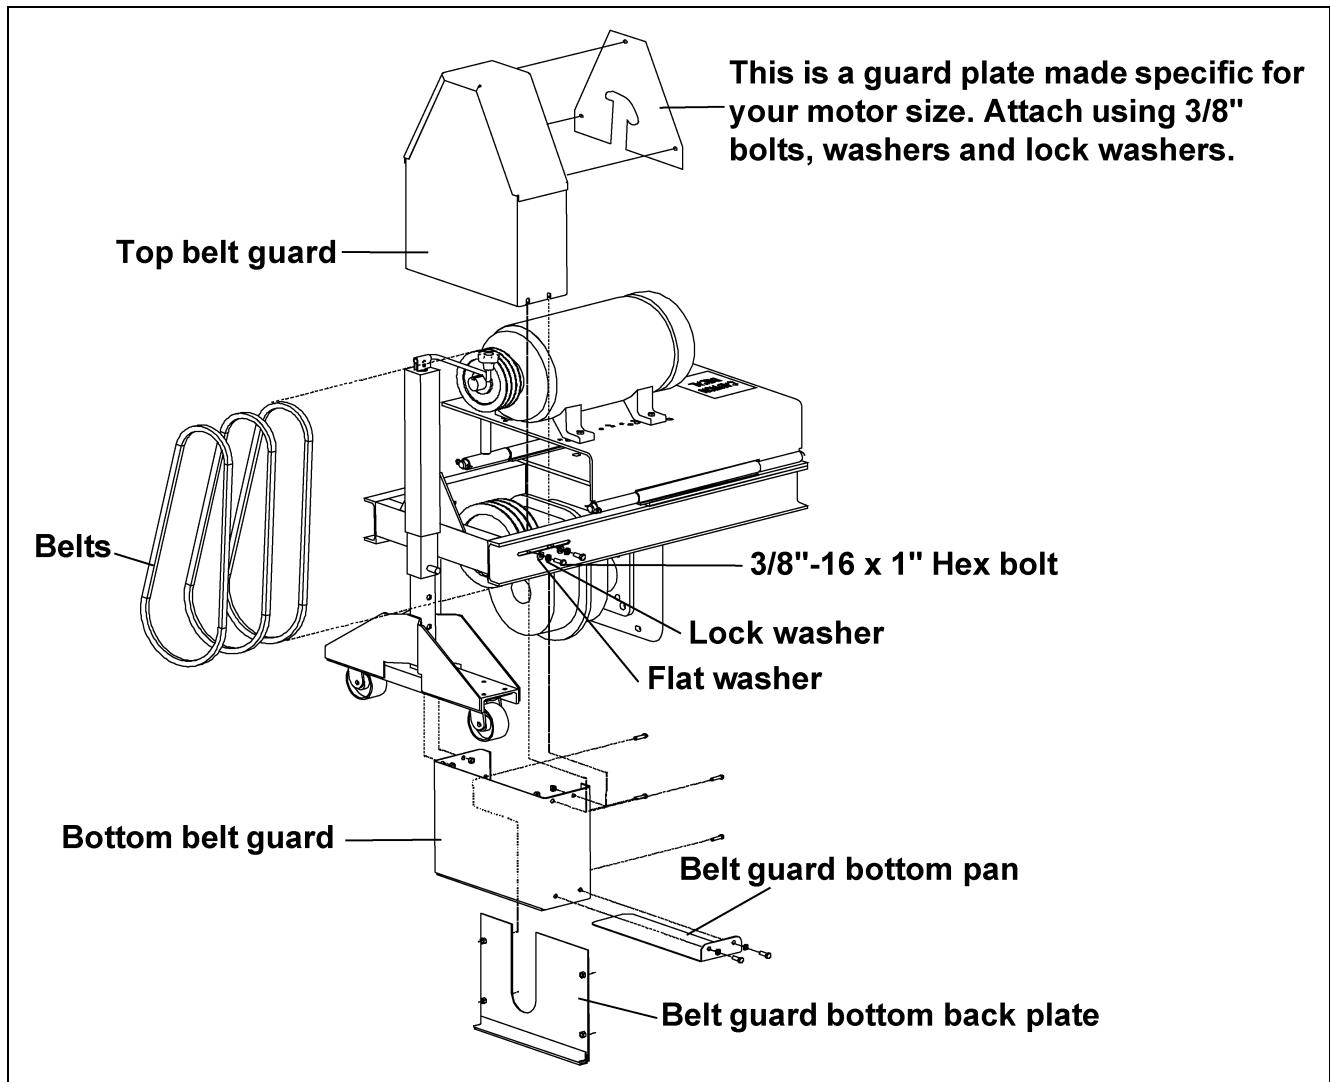

Figure 5AH
H. Slide the top belt guard over the bottom belt guard as shown in Figure 5AH and tighten bolts.